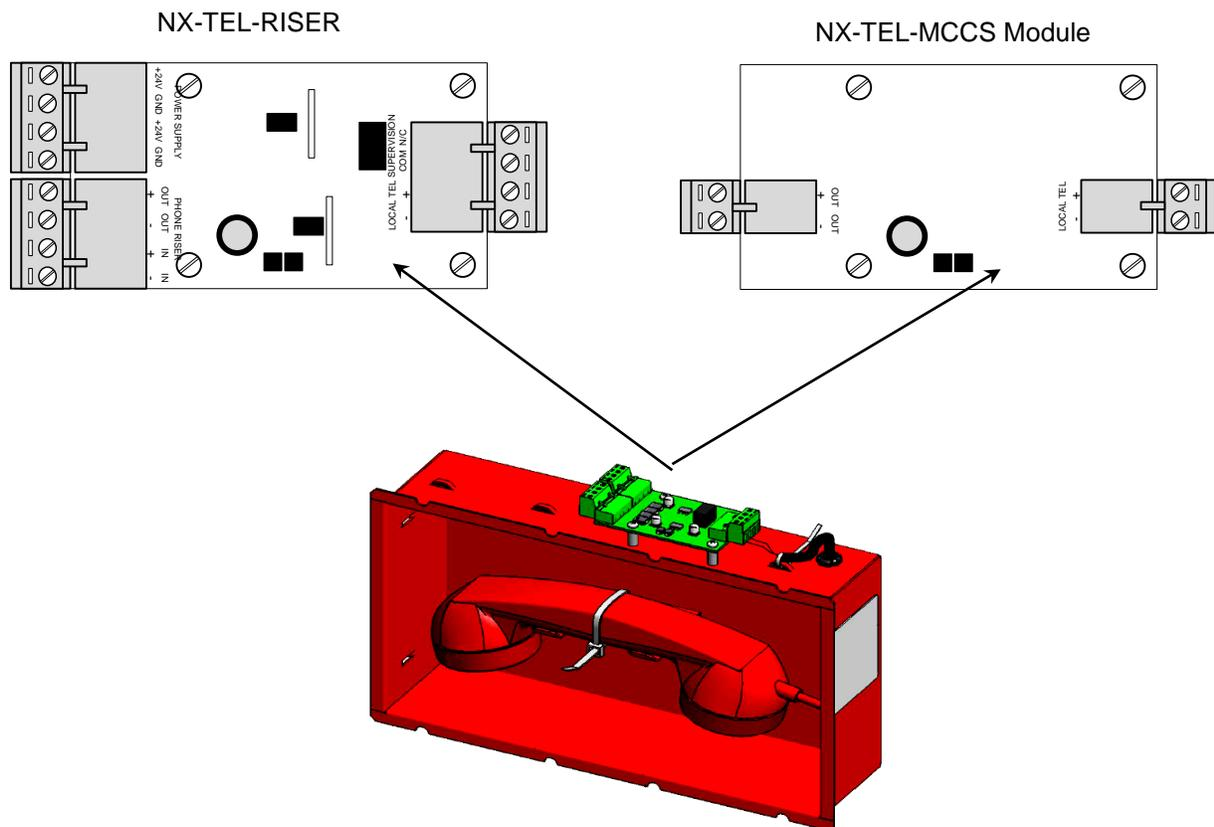

Figure 52 – NX-TEL or NX-TEL-MCCS Command Center Firefighter Phone and Enclosure
The NX-TEL is a command center firefighter phone and enclosure which includes an NX-TEL-RISER single telephone riser module (see figure 52), while the NX-TEL-MCCS is a command center firefighter phone and enclosure which includes an NX-TEL-MCCS module for connection to the SHIELD NX-TEL-RISE6 6-way multiple telephone riser module (see figure 52).
Remove power (AC and DC) from the system. Unplug the pluggable terminal blocks of the NX-TEL-RISER or NX-TEL-MCCS module. Remove the four (4) screws holding the NX-TEL-RISER or NX-TEL-MCCS module to its mounting location (see figure 52). Place the new NX-TEL-RISER or NX-TEL-MCCS module on to the standoffs and secure with the removed four (4) screws. Replace the removed pluggable terminal blocks to their proper locations and reconnect AC and DC power.